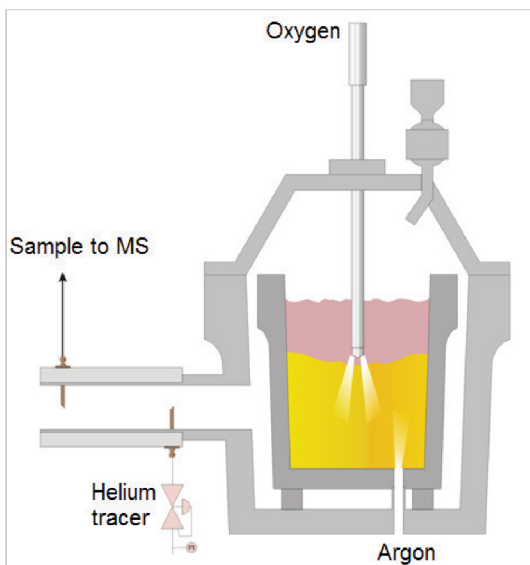

Figure 1. Vacuum Oxygen Decarburization Furnace
This is achieved by decreasing the partial pressure of carbon monoxide to ensure preferential removal of carbon over chromium from the melt. In practice, this is done in the Argon Oxygen Decarburization (AOD) furnace by dilution using argon or in the Vacuum Oxygen Decarburization (VOD) or Ruhrstahl Heraeus (RH) processes by reducing the pressure over the molten metal. Figure 1 shows a typical VOD stainless steel production furnace.